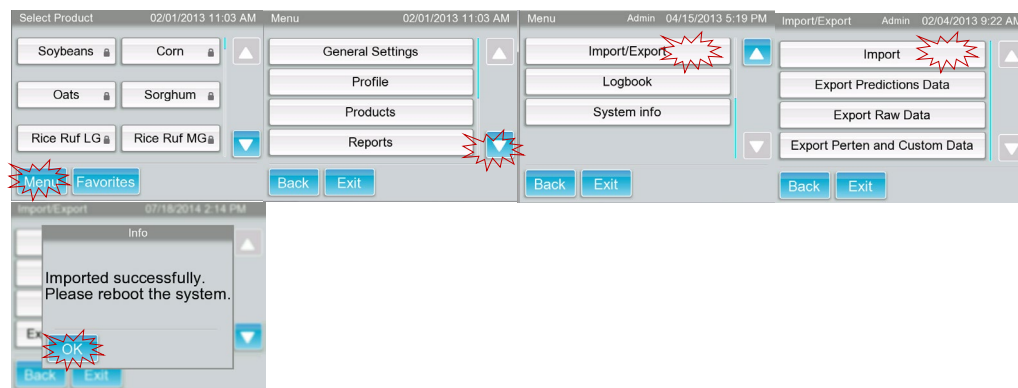

Figure 4A: select **Menu**; B: select down arrow; C: select **Import/Export**; D: select **Import**; E: select **OK**.
8.5.3 Import calibration file (see Figures 4a-e).